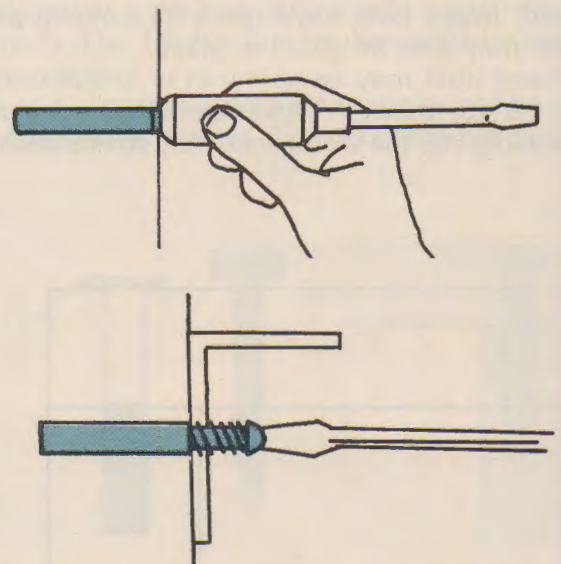

Fig. 16-47. Installing screw anchors. Top. Drill hole and tap in the screw anchor. Bottom. Position fixture and insert screw.
4. Slide each anchor into its hole and tap it with a hammer. This will seat it, Fig. 16-47, top.
7. Insert the screws through the mounting holes and tighten it, Fig. 16-47, bottom.